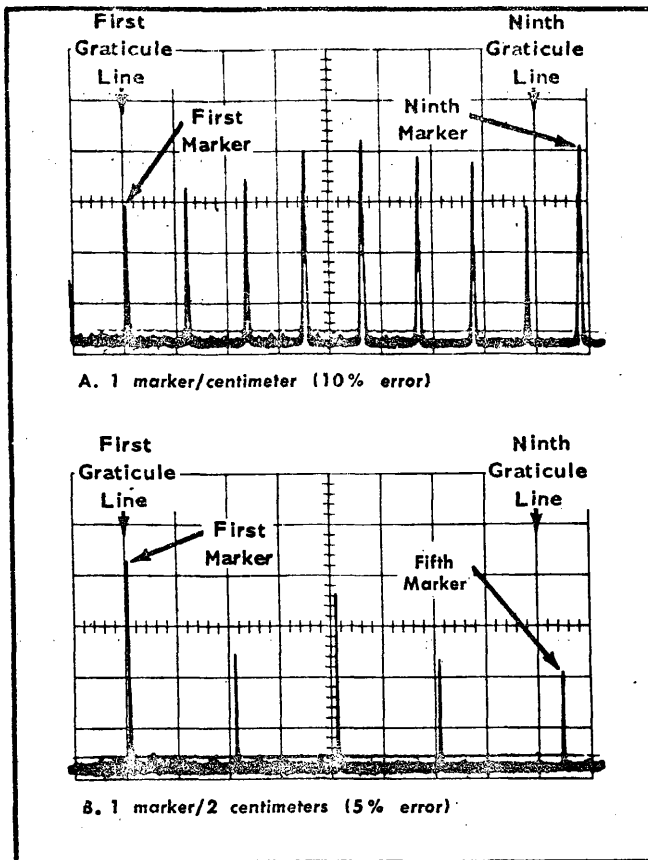

Fig. 5-1. Measuring dispersion accuracy.
a. Requirement—Dispersion accuracy for the MHz/CM ranges is listed in Table 5-1. IF CENTER FREQ control range should equal or exceed + and - 25 MHz from its centered (000) position. Dispersion accuracy and display linearity must remain with the listed specifications of Table 5-1 to the + and - 25 MHz positions of the control.
e. Check the dispersion accuracy and linearity for each MHz/cm setting of the DISPERSION selector as listed in Table 5-1. (See Fig. 5-1 and 5-2.) The Horizontal Position control or the IF CENTER FREQ control may be used to align the prime markers to the graticule divisions. The RESOLUTION control should remain coupled with the DISPERSION selector.